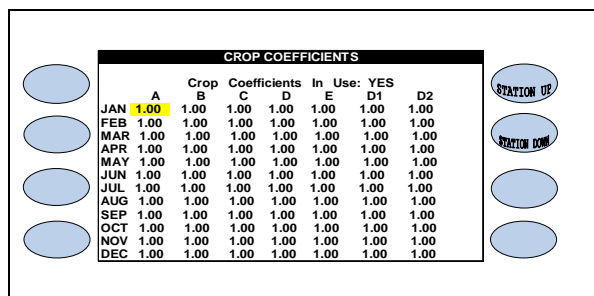

Figure 5.25
- **Crop Coefficients In Use:** The default setting is set to NO. By changing it to YES the Screen will open up the Month and Program Columns (Figure 5.25).